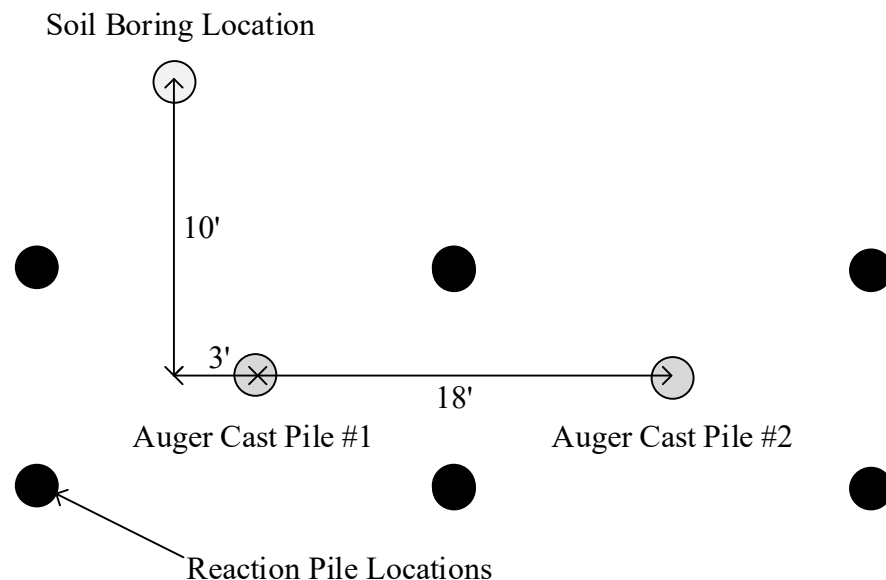

Figure 1 – Plan view of auger cast test piles, reaction piles, and soil boring at project site
A large, constructed work is to be founded on auger cast piles. Prior to construction, pile capacities were determined using conventional axial load tests. Your task is to predict the axial capacity of two different piles. Both piles are 18" in diameter. One pile (1) is 63' in length and the other (2) is 45' in length. To aid in your prediction, both SPT and CPT data has been provided from the project site. The location of both the SPT and CPT are shown in Figure 1 as the 'Soil Boring Location.' You must complete Table 1 and include it in your submitted report.